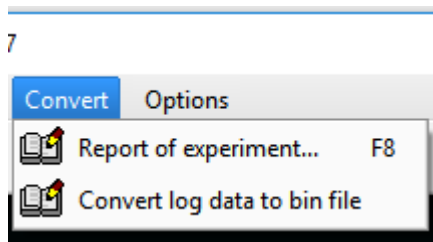

Fig.3.5
**Convert** Menu contains option for conversion of binary data to text format (Fig.3.5).